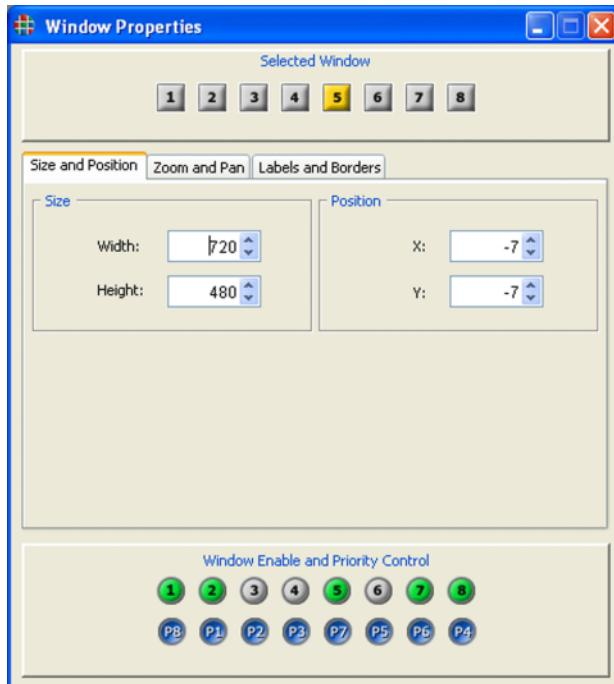

Figure 3-7. WCP Window Properties page — Size and Position
In addition to changing size and position using the Virtual Screen page (see Virtual Screen Page on page 29), the size and position of windows can be adjusted using the Window Control, **Size and Position** page as shown in Figure 3-7.
- Click on the **Size and Position** Tab on the **Windows Properties** page (Figure 3-7).
- Move the cursor to the **Window Enable and Priority Control** area at the bottom of the page (Figure 3-7).